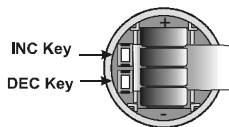

Figure 1: Battery compartment
**Note:** INC & DEC keys are located inside the battery compartment. Refer figure 1.